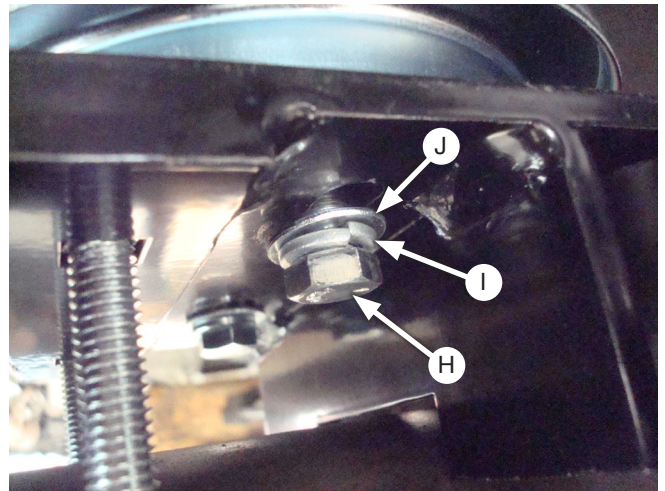

Fig. 22
1. With the axle still hanging, lift the air spring up and slide a roll plate into position underneath the air spring. Align the air spring mounting holes, roll plate holes, and lower bracket slotted holes. Attach the air springs to the lower brackets with two 3/8" Hex screws (H), lock washers (I) and flat washers (J) (Fig. 22). Leave loose at this time.